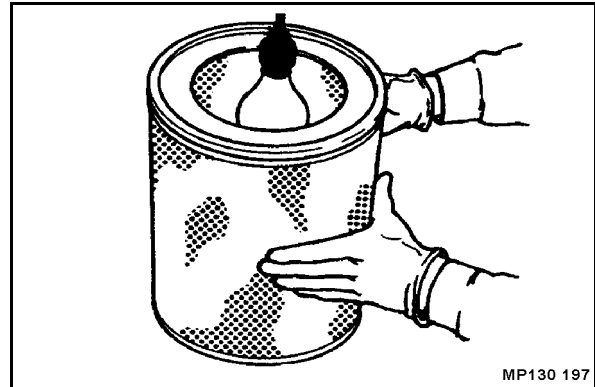

Fig. 190
- Examine the air filter with a torch for cracks and holes in the paper bellows (Fig. 190).